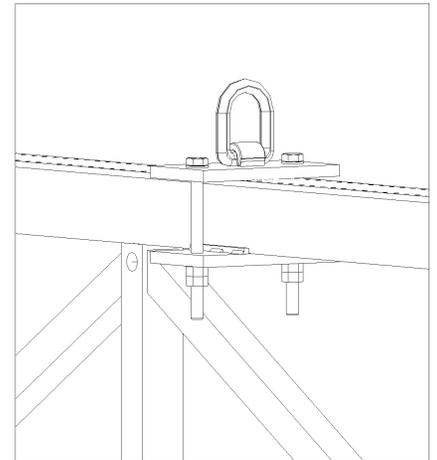

Fig. A1.04
4. For both bolts, tighten top nut. While holding it with a wrench, tighten second nut against it. (Fig. A1.04)